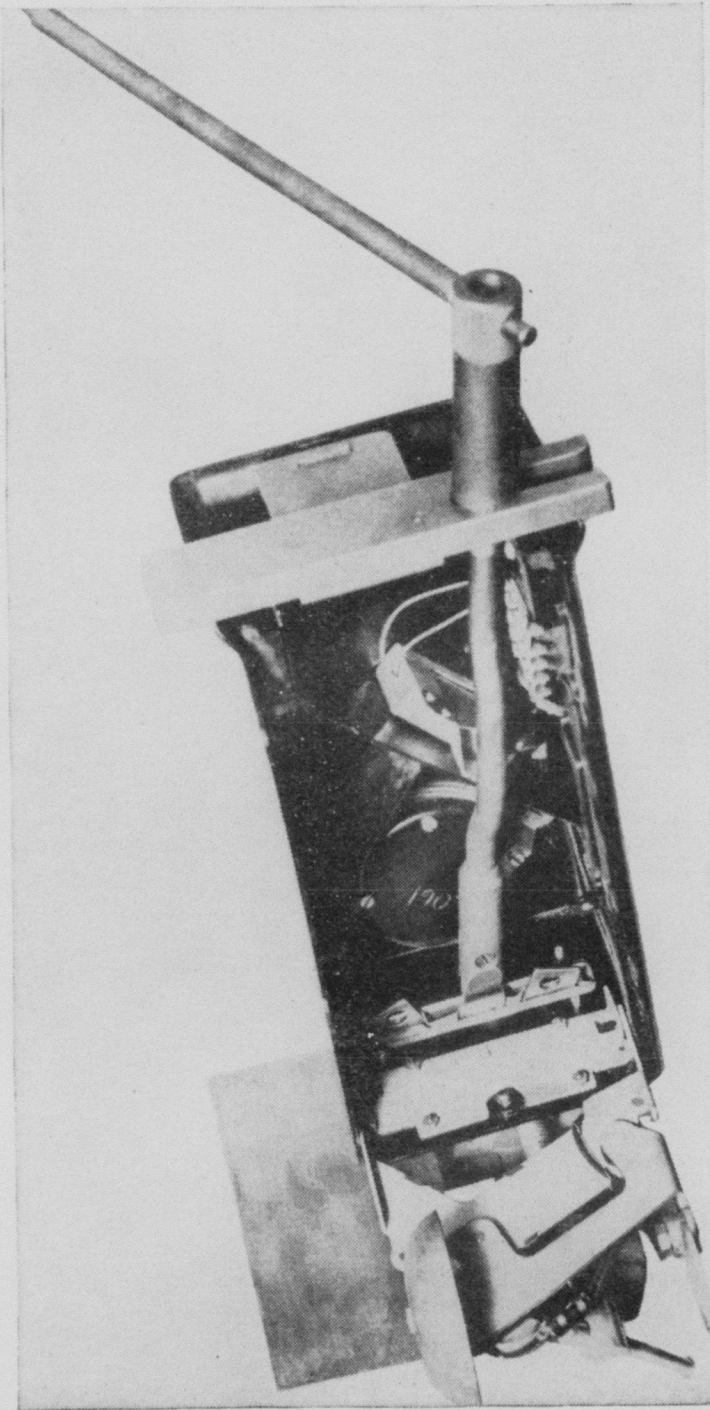

Fig. 4
- (l) Remove the drift by inserting the release handle in the hole in the release nut and turning clockwise against the guide plate. See Fig. 4. Check that the drift is completely out of the slot in the gauge before removing the drive rod and guide plate.
(c) Assemble the switchhook assembly P-339611 as shown in Fig. 4, 5, or 6 of Section C42.106. In assembly, the pin should not touch the end of the hole in the switchhook (judged by feel). Be sure that the set screw for the